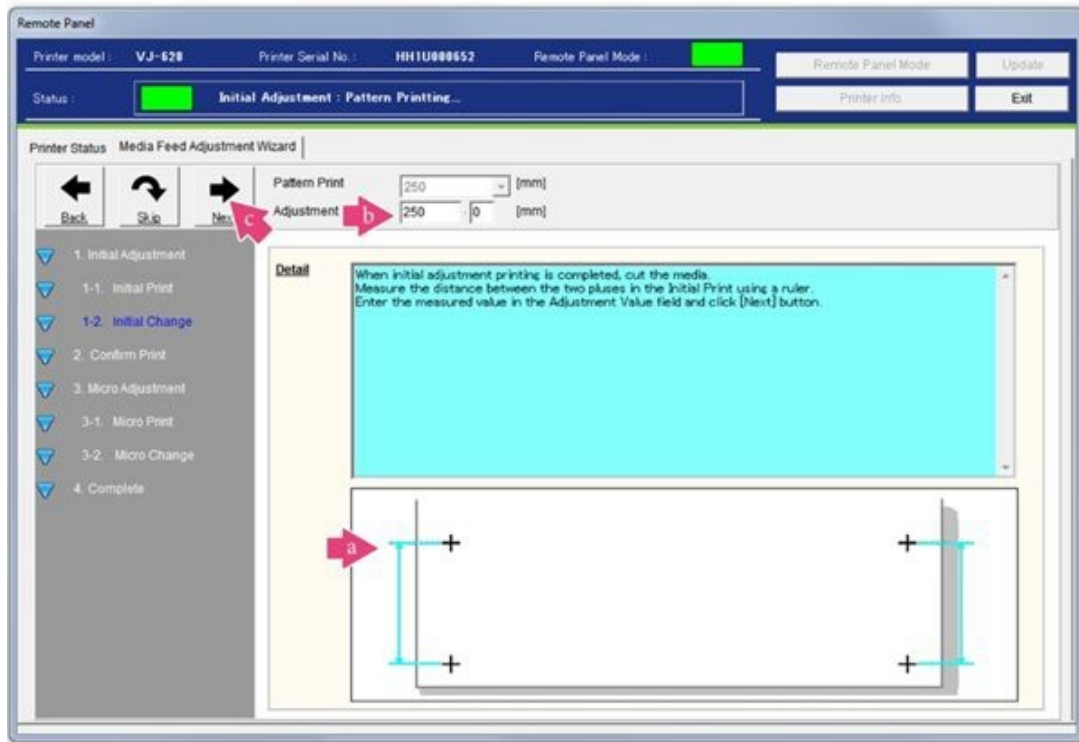

Figure 96
83. When the initial adjustment print is completed, cut the media. Measure the distance between the two plus signs as shown (a). Enter the measured value in the **Adjustment Value** field (b), then select **Next** (c). See Figure 96.